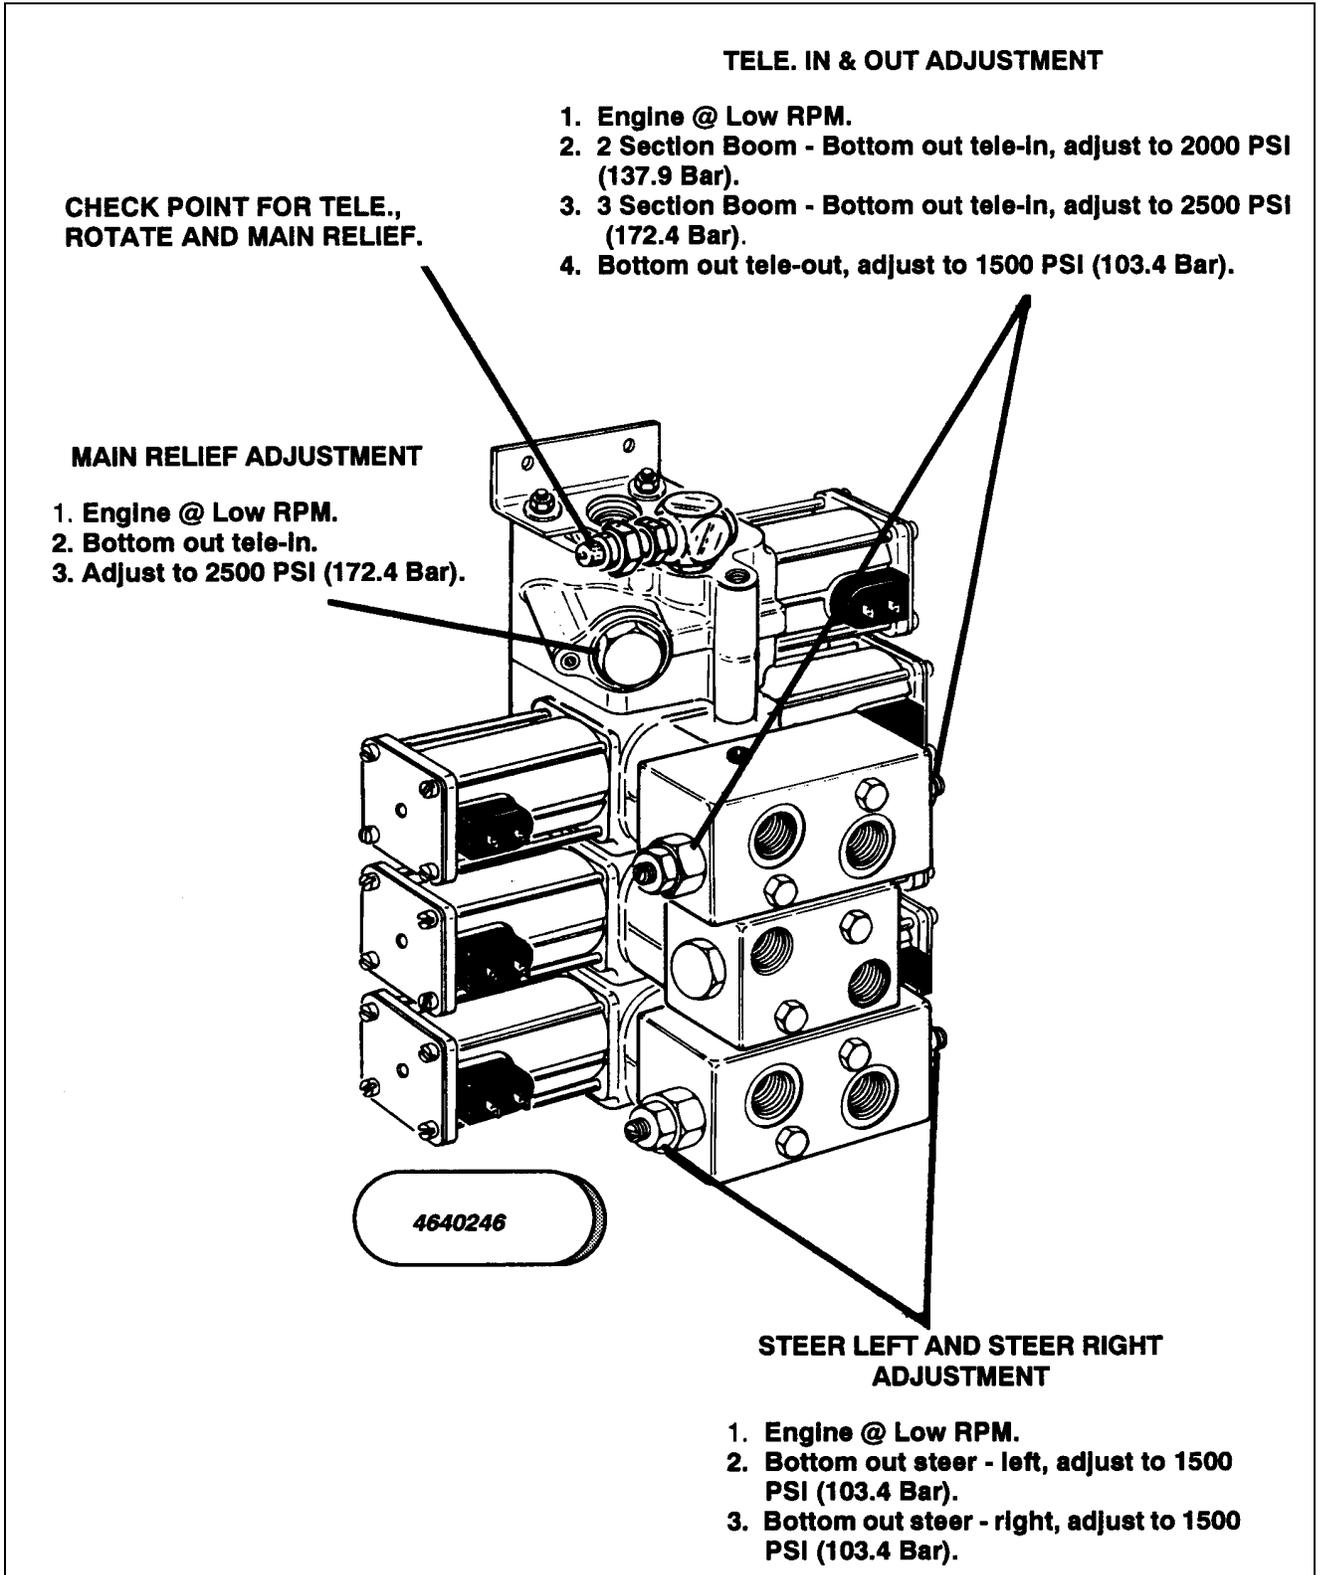

Figure 2-22. Solenoid Valve Pressure Settings. (Machines Built Prior To 1992 With Steering Wheel)
- d. Solenoid Valve Pressure Settings Machines Built Prior To May 1992 With Steer Wheel are shown in Figure 2-22.